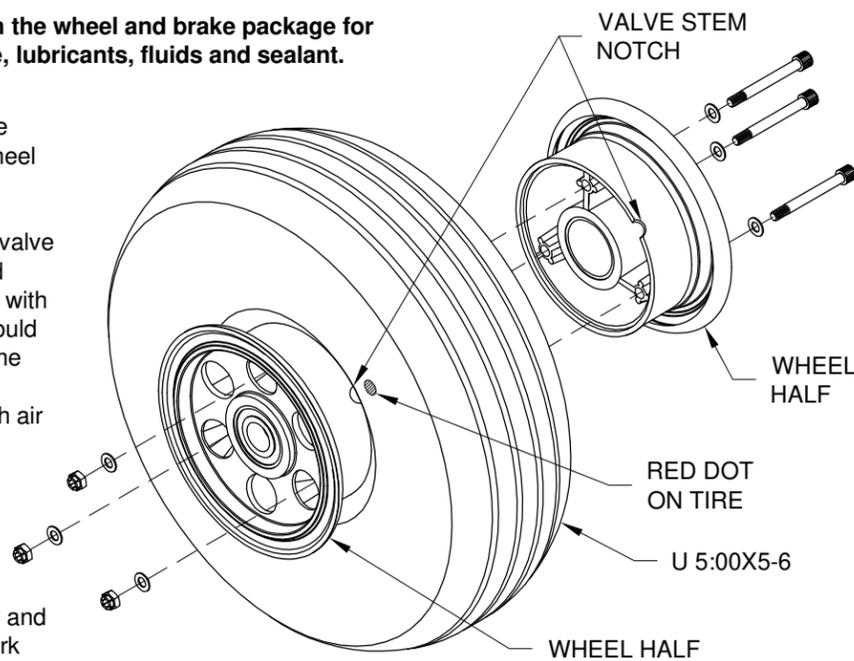

FIGURE 2: NOSE WHEEL & TIRE ASSEMBLY
Step 3: Split the U WHLNW51CCWHEEL Nose Wheel by removing the bolts holding the two wheel halves together. See Figure 2.